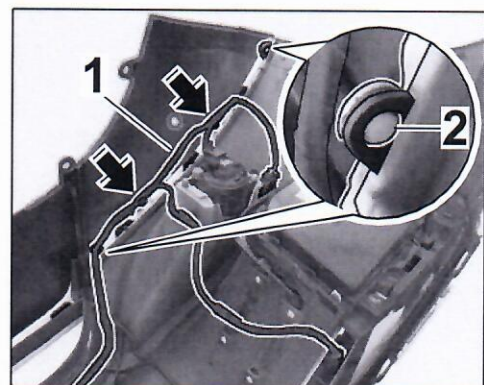

Figure 4
- 1.3.1 Remove fixing clips (2 x ⇒ *Figure 4 -Arrows-*) from wire harness in front apron (left/right).
- 1.3.2 Release and unclip two expansion rivets on the front apron (at the left ⇒ *Figure 4 -in-set-/right*).